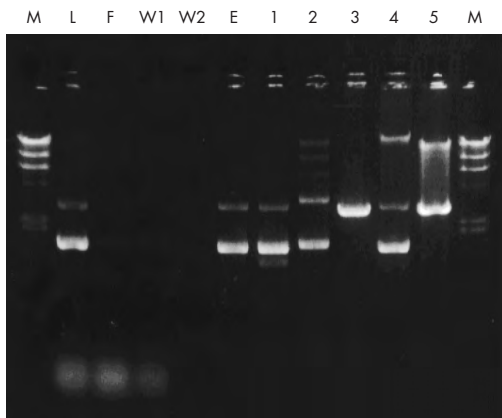

Figure 3. Agarose gel analysis of the plasmid purification procedure.
- a) Dimer form of plasmid Dimers or multimers of supercoiled plasmid DNA are formed during replication of plasmid DNA. Typically, when purified plasmid DNA is electrophoresed, both the supercoiled monomer and dimer form of the plasmid are detected upon ethidium bromide staining of the gel (see Figure 3, page 34). The ratio of these forms is often host dependent.
- b) Plasmid has formed denatured supercoils This species runs faster than closed circular DNA on a gel and is resistant to restriction digestion (see Figure 3, page 34). Do not incubate cells for longer than 5 min in Buffer P2. Mix immediately after addition of Buffer P3.
Run 2 μ l of each sample on a 1% agarose gel* for analysis of the fractions at each stage of the plasmid purification procedure. Figure 3 shows an analytical gel of the different fractions, together with examples of problems that can arise at each step. If you find that you have a problem with a particular step of the protocol, turn to the hints in the relevant section of the troubleshooting guide starting on page 26. If the problem remains unresolved, or if you have any further questions, please call QIAGEN Technical Service.